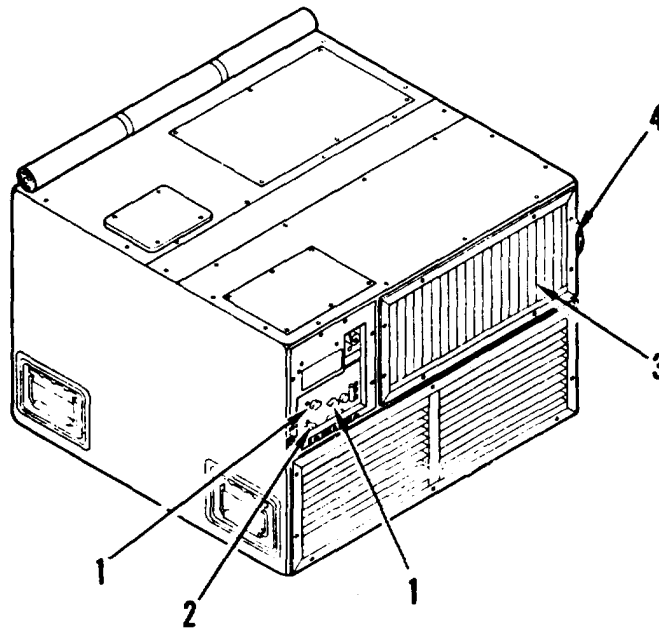

Figure 2-7. Operating instructions for cooling
c. Operating Instructions for Cooling (see Figure 2-7). Operate the air conditioner for cooling as follows: